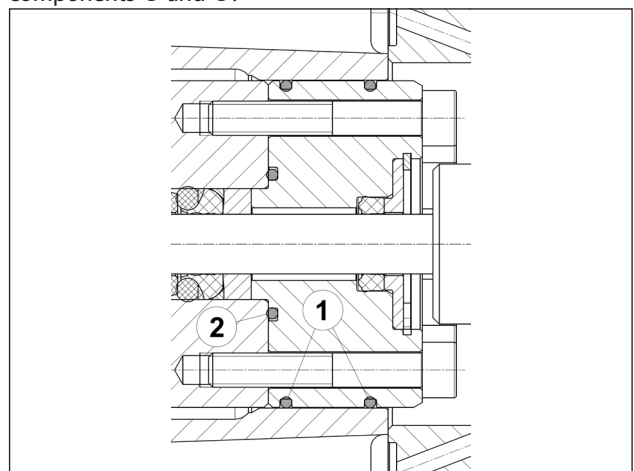
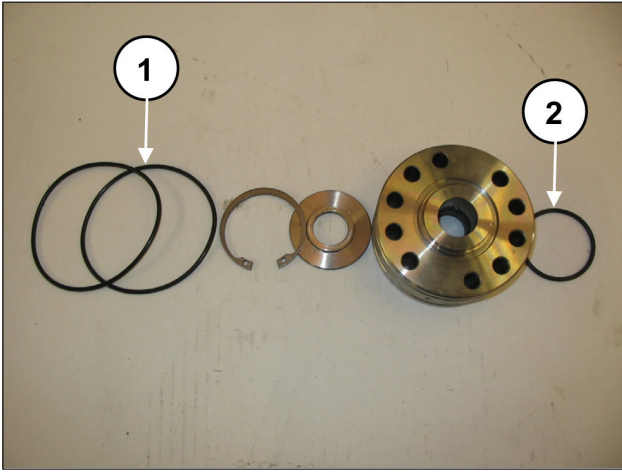

Fig. 127
Fig. 128
Install the seal support unit (Fig. 127 and Fig. 128) replacing components ① and ②.